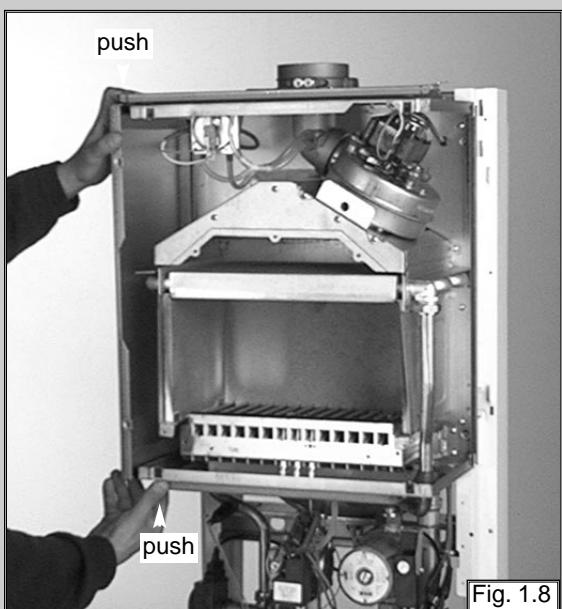

Fig. 1.8
1. Remove the side panels of sealed chamber (fig. 1.8);